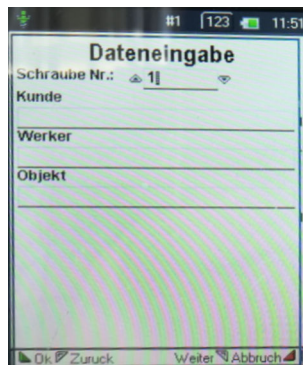

Fig. 34: Working with documentation
3. Set P_{set} (Fig. 34/1) manually.
To do so, press and hold the white button (Fig. 34/2) until P_{set} is reached.